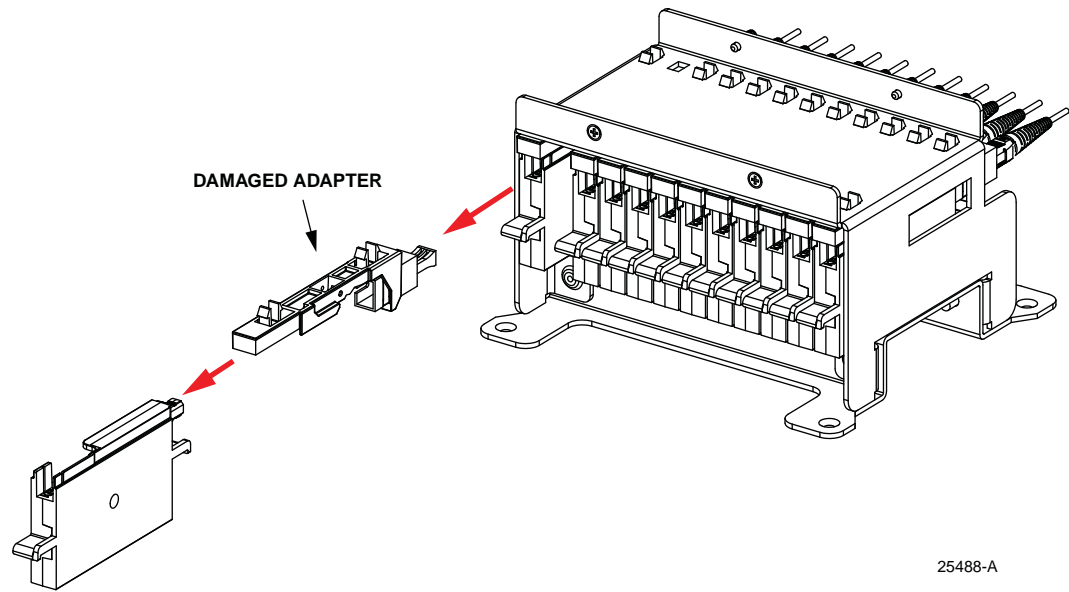

Figure 38. Removing Damaged Adapter
5. Disassemble, from upper clips, top slide with damaged adapter, and discard, as shown in Figure 38.